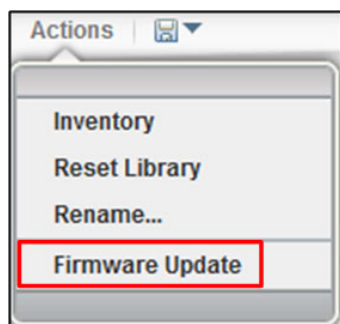

Figure 4-161 Firmware Update
1. From the System page of the TS4500 management GUI, select **Actions** → **Firmware Update**, as shown in Figure 4-161.